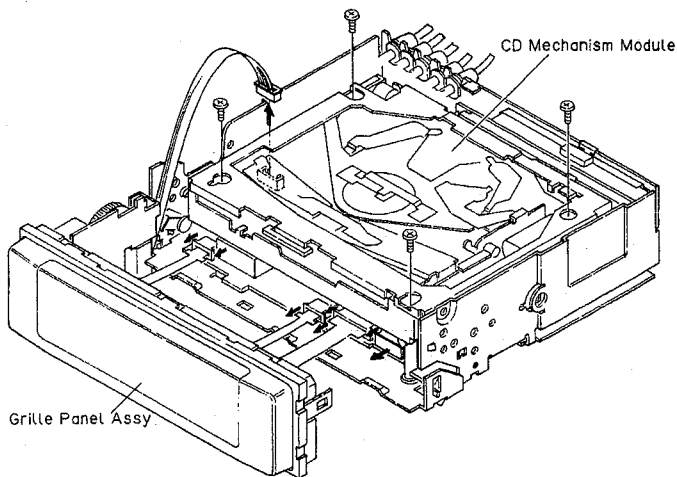

Fig.4
- 3.Remove the four screws.(Fig.4)
- 4.Disconnect the connector of CD mechanism module, and then remove the CD mechanism module.(Fig.4)
- 5.Disconnect the four connectors.(Fig.4)
- 6.Remove the grille panel assy.(Fig.4)